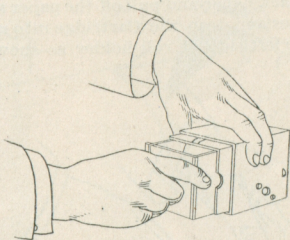

Fig. 3.
3. Grasp roll holder at top and bottom as in Fig. 3 (camera is shown on its side in cut) and remove from box. Pull straight and true and it will come out easily.